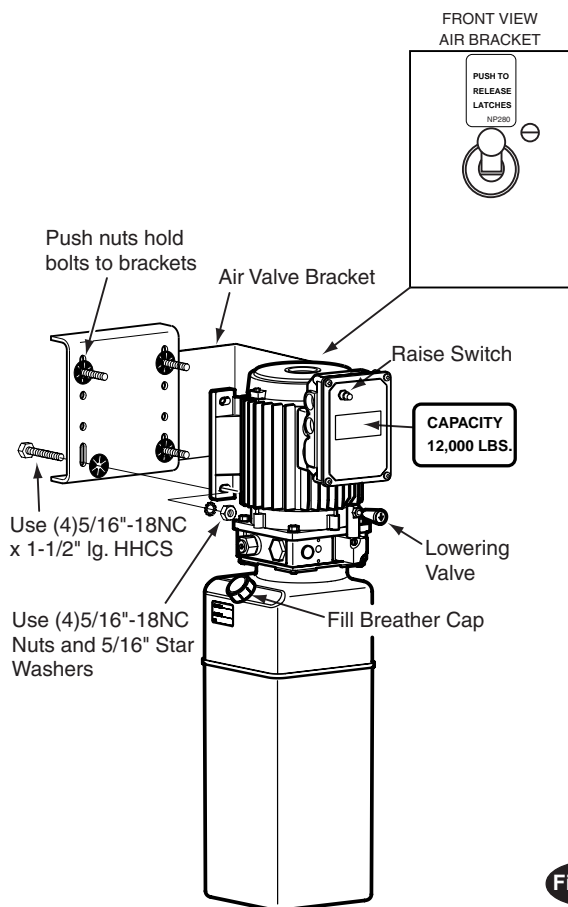

Fig. 18
- A. Align Latch Release Air Valve Bracket with holes in right side of Column Bracket. Put four 5/16" x 1-1/2" hex bolts through holes in Air Valve Bracket and Column Bracket, using push nuts to hold in place, Fig. 18.